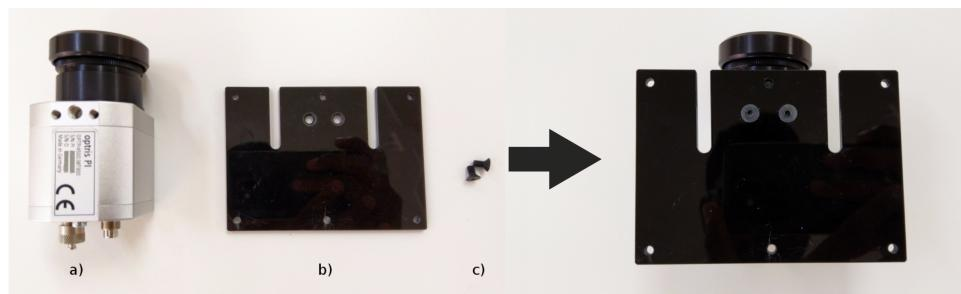

Figure 171: Steps to install the add-on
- First, attach the camera to the mounting panel with the provided fasteners DIN 7991 M4x8, see figure 171.